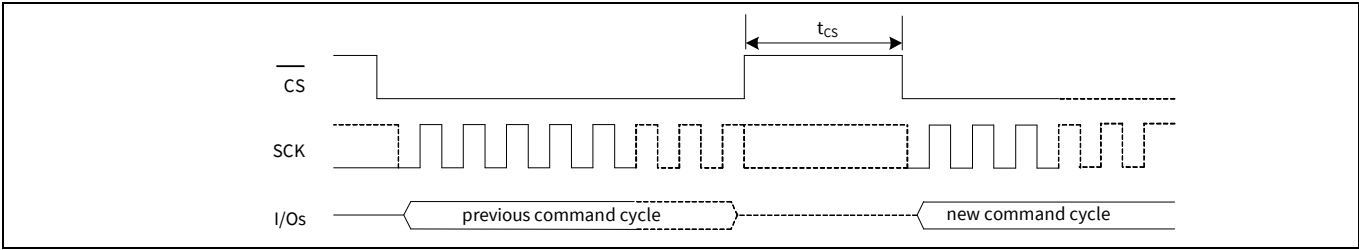

Figure 116 Chip deselect ($\overline{CS}$ HIGH) - t_{CS} timing
21. t_{CS} is the minimum chip deselect ($\overline{\text{CS}}$ HIGH) time before the new command cycle starts in a specific SPI mode (SPI, DPI or QPI). This parameter ensures that previous operation is successfully completed before the host starts a new command cycle, see **Figure 116**.
21. t_{CS} is the minimum chip deselect ($\overline{CS}$ HIGH) time before the new command cycle starts in a specific SPI mode (SPI, DPI or QPI). This parameter ensures that previous operation is successfully completed before the host starts a new command cycle, see **Figure 116**.
26. t_{CS} is the minimum chip deselect ($\overline{CS}$ HIGH) time before the new command cycle starts in a specific SPI mode (SPI or QPI). This parameter ensures that previous operation is successfully completed before the host starts a new command cycle, see **Figure 116**.
26. t_{CS} is the minimum chip deselect ($\overline{\text{CS}}$ HIGH) time before the new command cycle starts in a specific SPI mode (SPI or QPI). This parameter ensures that previous operation is successfully completed before the host starts a new command cycle, see **Figure 116**.